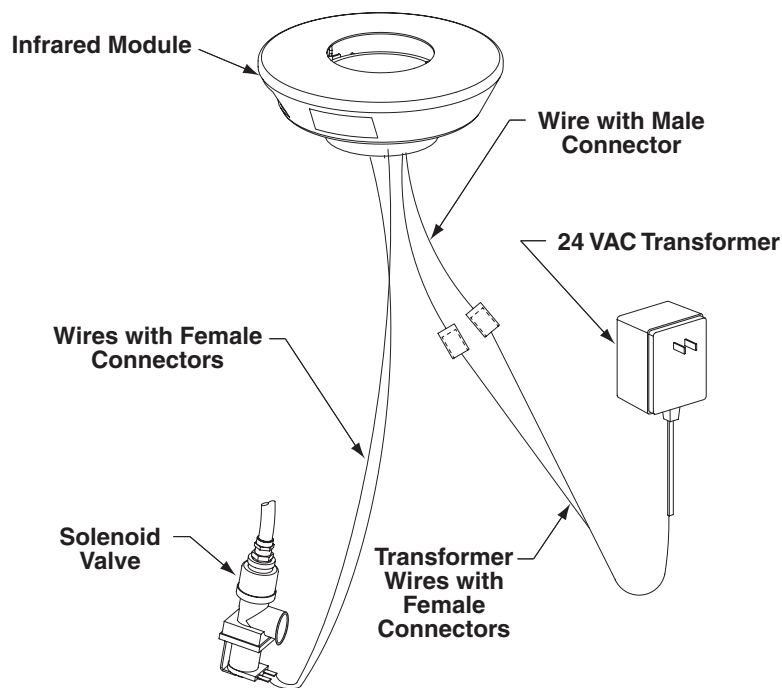

Figure 7
6. Continue with instructions and Figure 7 on page 8 for wire connections.
NOTE: Refer to Figure 7 on page 7 for installation of unit with Type B or H drain.
4. Continue with instructions and Figure 7 on page 8 for wire connections.